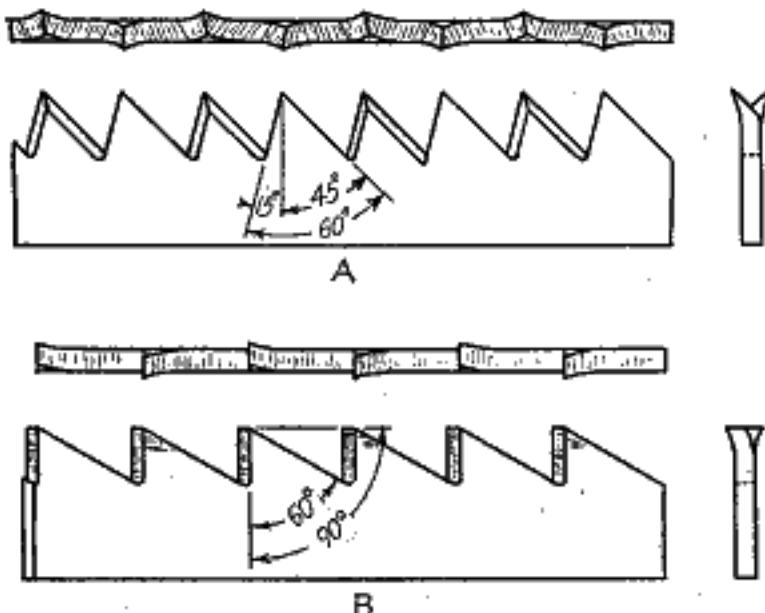

FIG. 149.—*A*. Hand crosscut saw. *B*. Ripsaw. There are two chief differences in the shape of crosscut and ripsaw teeth:
hook or pitch of the teeth. The front edge of a ripsaw tooth is perpendicular to the tooth line of the saw, while the front edge of a crosscut saw tooth makes an angle of from 12 to 15 deg. with the perpendicular (see Fig. 149).
2. The edges of the teeth are not beveled but are square with the saw blade (see Fig. 149).